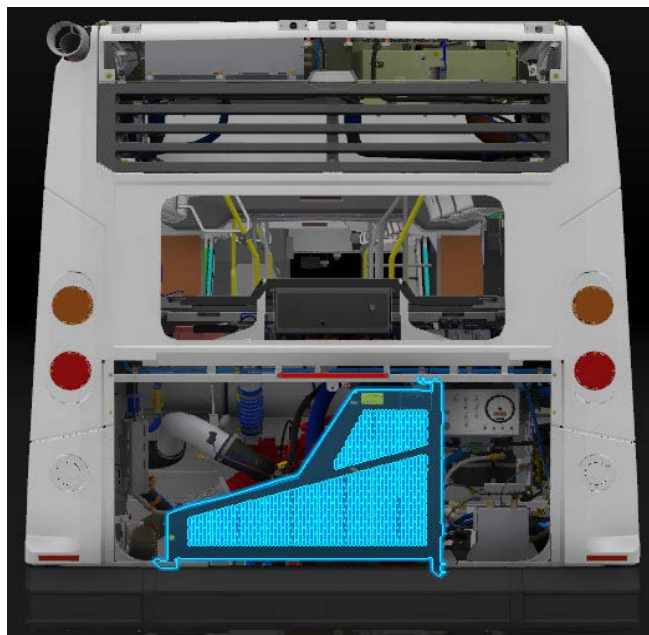

Figure 3 - Engine Belt Guard
- 1.3. Remove the engine belt guard and, if needed the HVAC compressor belt. See Figure 3.